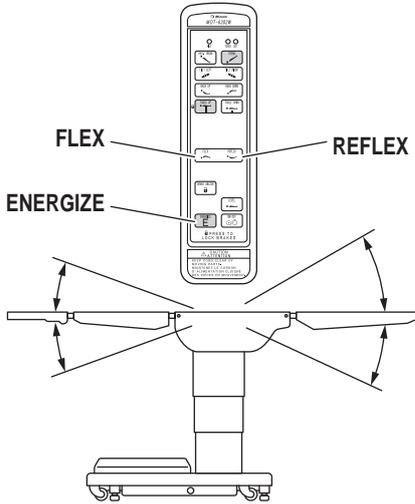

Figure 2-12. Flex/Reflex Positioning
f. Flex Positioning To place the table top in a flex position from horizontal, press the ENERGIZE button and then the FLEX button (figure 2-12). To return the table top to a horizontal position or into a reflex position, press the ENERGIZE button and then the LEVEL or REFLEX button.